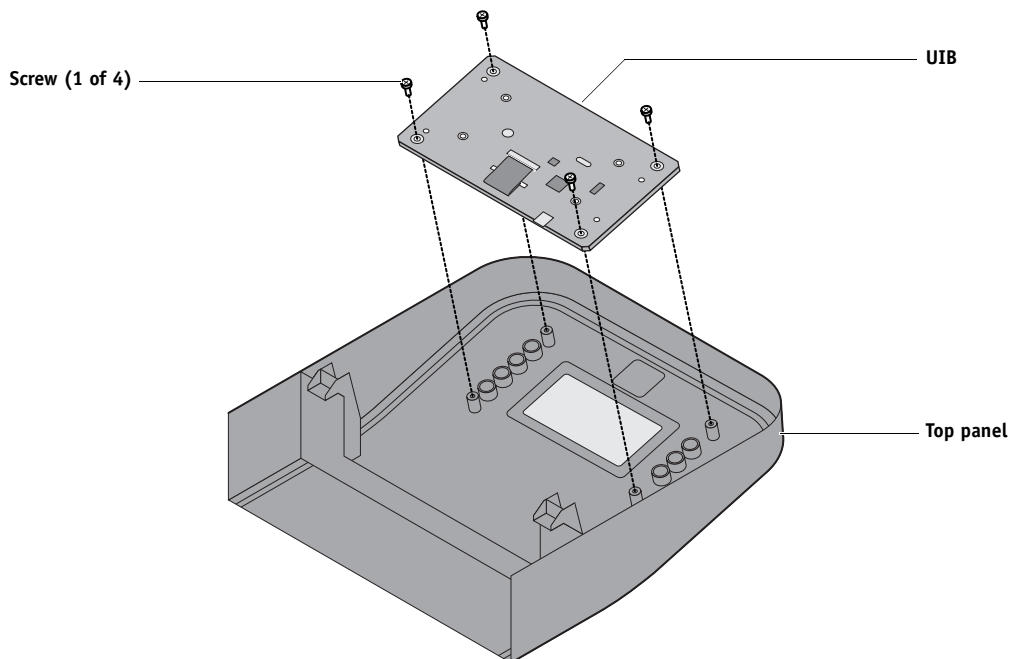

FIGURE 24: Removing/replacing the user interface board
4. **Remove the four screws that secure the UIB to the underside of the top panel (see Figure 24).**
4. Secure the UIB to the underside of the top panel (see Figure 24 on page 74).